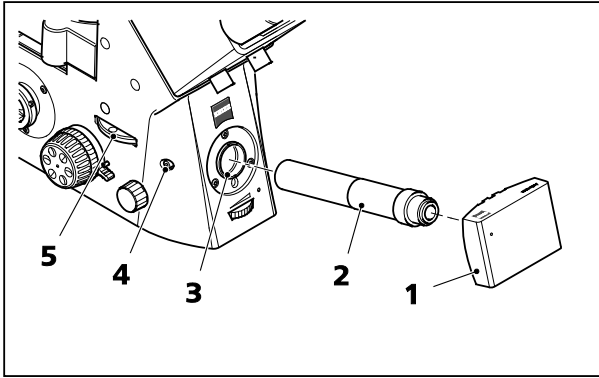

Fig. 163 Video attachment
- The Axio Observer microscopes 5, 5 materials and 7, 7 materials permit the connection of one video camera or one digital camera (e.g. Axiocam digital camera from ZEISS), (Fig. 163/1) to the frontport via the V200 C 2/3" 0.63x video adapter (Fig. 163/2).
- Attaching the video adapter is analogous to the photo adapter. Attach the pre-mounted video adapter (Fig. 163/2) to the frontport (Fig. 163/3), align it and tighten clamping screw (Fig. 163/4) using the 3 mm ball-headed screwdriver.
- After switching the beam path (Fig. 163/5) from visual observation to the frontport, 100 % of the light is now available for the camera.